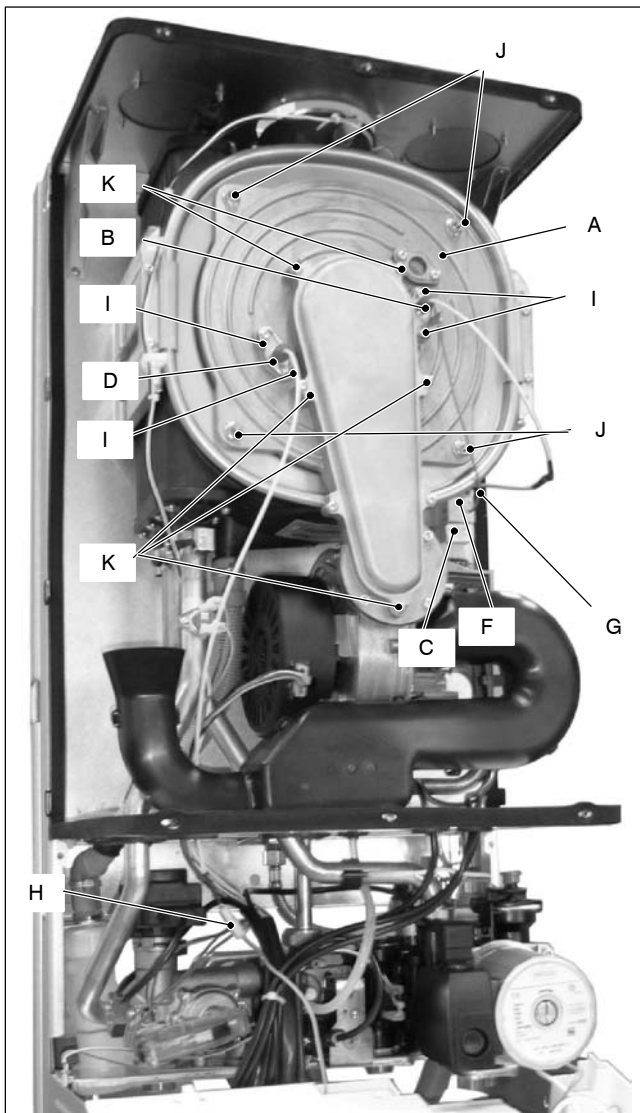

Fig. 18.1
- 2 Disconnect the ignition electrodes connector *F* and the earth wire *G* from the spark generator *C* (Fig. 18.1) and disconnect the detection electrode connector *H*.
- 3 Unscrew the screws *I* and remove the ignition electrodes *B* and the detection electrode *D* (Fig. 18.1).
- 3 Unscrew the screws *J* (Fig. 18.1 )and remove the cover of the combustion chamber.
- 4 Unscrew the screws *K* (Fig. 18.1 ) and remove the Air–gas duct lid.